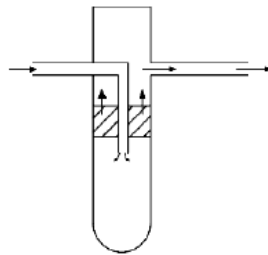

Figure 2.4 - Full flow filter
- **Full flow filters:** In this type, complete oil is filtered. Full flow of oil must enter the filter element at its inlet and must be expelled through the outlet after crossing the filter element fully (Fig. 2.4). This is an efficient filter. However, it incurs large pressure drops. This pressure drop increases as the filter gets blocked by contamination.